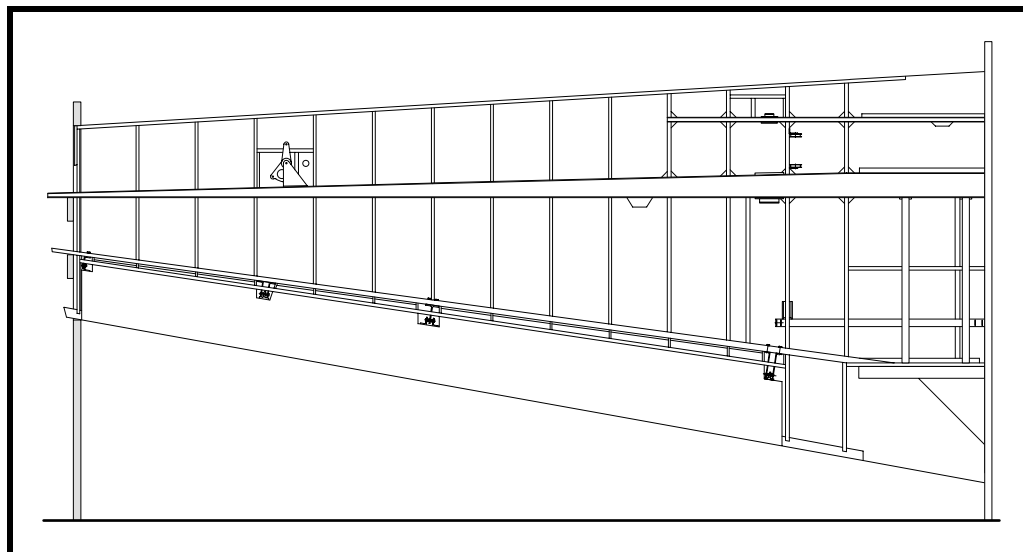

Figure 21
- ❑ For “open air” wheel well installation—fit the four 30x15 seat supports in place, but do not glue these in place yet. See Figure 21.